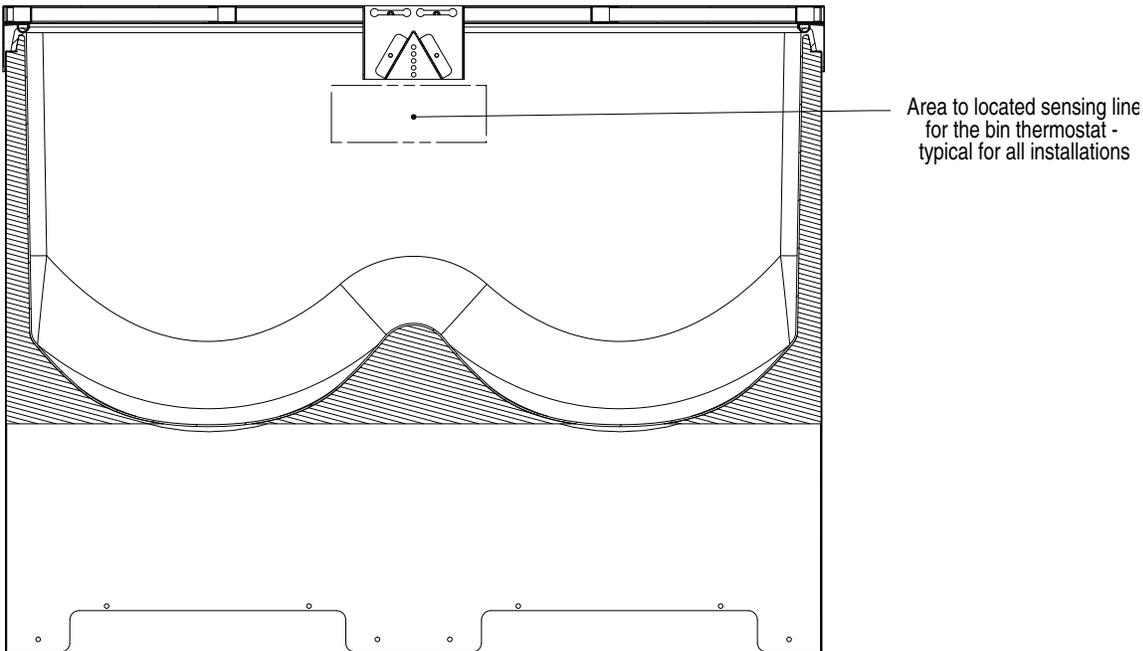

Figure 6.
10. ED/DF300 only – Tighten the four (4) ice deflector mounting screws.
12. Install icemaker bin thermostat just underneath ice deflector, see Figure 6 for location area.